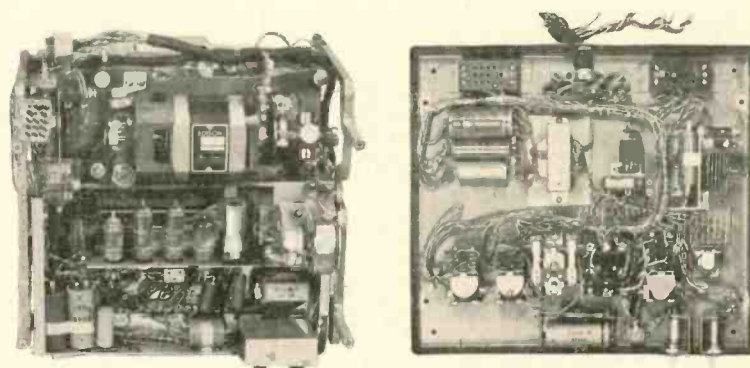

Fig. 10. Two views of the TeleVocewriter—(A), underside, showing amplifier and motor; and (B), the control base.
The above are some of the factors that determined the form of configuration of the system finally evolved. Fig. 9 shows the components of the TeleVoice System, in which (A) is the recorder, (B) the executive desk station, (C) the alternative executive wall station, (D) the secretary's transcribing instrument with (E) her start/stop and backspace controls. The disc record is shown as item (F). (G) shows the internal appearance of the recorder, while Fig. 10 shows the underside and the control base.